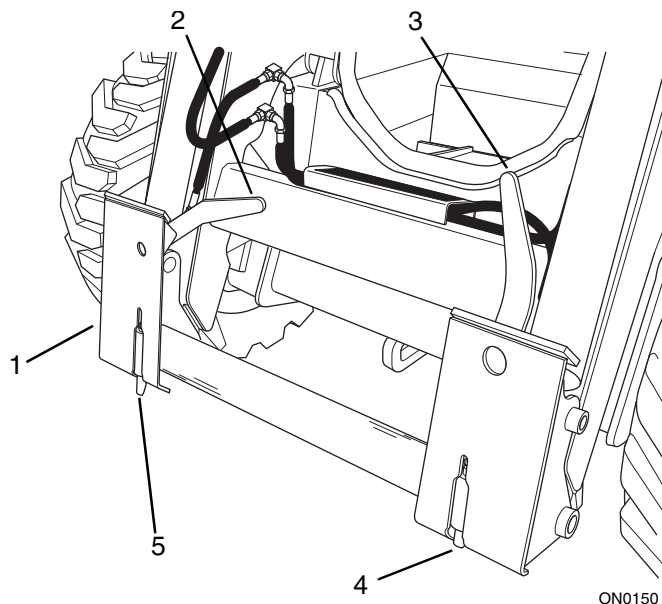
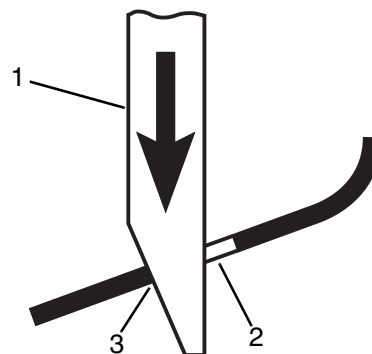

Figure 9-1 Quick Attach
Figure 9-2 Quick Attach Lock Pin Engagement
The quick attach unit (Fig. 9-1, 1) provides a rigid frame to which an attachment is connected to the vehicle. The quick attach unit (1) is secured to the loader arms and attachment tilt cylinders with pins, capscrews, and lock-nuts. Locking levers (2 & 3) and pins (4 & 5) on the quick attach unit (1) are used to secure the attachment to the vehicle.
3. Fully raise both locking levers (Fig. 9-1, 3) until the locking pins are retracted (4) into the quick attach (disengaged position).
11. Fully lower both locking levers (Fig. 9-1, 2) down. This pushes the locking pins (Fig. 9-2, 1) down (engaged position) through the slots (2) at the base of the bucket or attachment mounting plate, locking the bucket or attachment to the quick attach.
WARNING: Locking pins must be in full contact with the lower edge of the slot in the attachment (Fig. 9-2, 3). Locking levers must be fully lowered. The attachment could come loose from the quick attach if the slot on the attachment is excessively worn or the attachment mount is not properly aligned. Failure to secure locking pins in the attachment slots could allow the attachment to come off and cause death or serious injury.